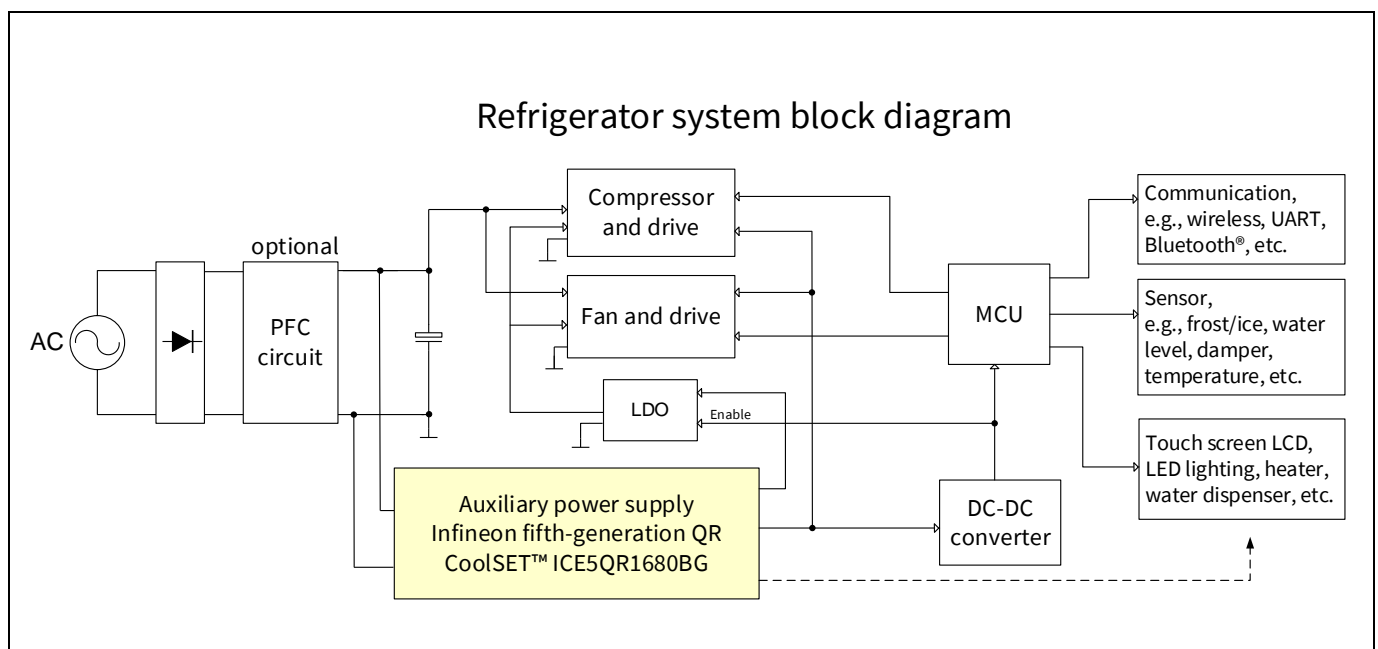

Figure 1 Simplified refrigerator system block diagram
An auxiliary SMPS is needed to power the various modules and sensors, which typically operate from a stable DC voltage source. The Infineon CoolSET™ (as shown in Figure 1) forms the heart of the system, providing the necessary protection and AC-DC conversion from the mains to multiple regulated DC voltages to power the various blocks.
The input of the refrigerator auxiliary power unit is taken from the AC power grid, which is in the range of 85 V AC ~ 264 V AC. The fuse F1 is right at the entrance to protect the system in case of excess current entering the system circuit due to any fault. Following is the varistor VR1, which is connected across L and N to absorb the line surge transient. Common mode (CM) choke L1 and X-capacitor C1 form a basic filter to attenuate the DM and CM conducted EMI noise. The bridge rectifier D1 rectifies the AC input into DC voltage, filtered by the π filter (capacitor C2, C2a and L2). The above is not applicable if the power-factor correction (PFC) circuit is used as shown in Figure 1.